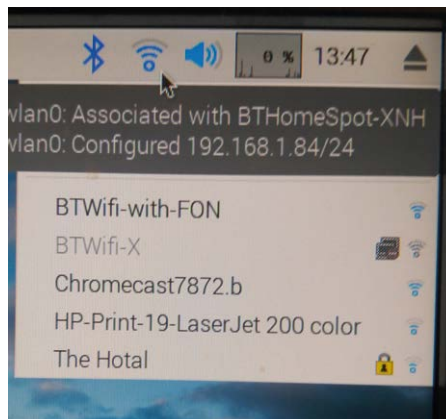

Figure 2.5 IP address of our connection
- To see the IP address of your Wi-Fi connection, place the mouse over the Wi-Fi icon as shown in Figure 2.5. In this example, the IP address was 192.168.1.84